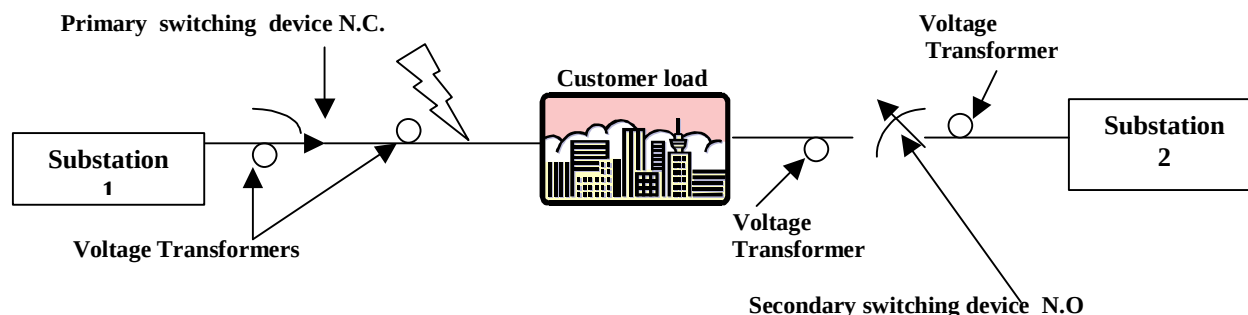

Figure 3
- b. A fault occurs between the primary switching point (see Figure 3) and the customer load. The recloser and breaker in substation one use zone sequence coordination to avoid unnecessary trips at the substation. After the recloser goes to lockout, the PCD control in this device will switch from the Primary settings program to Alternate 1 settings program. The PCD control in the recloser at the secondary switching point will detect loss of voltage (27-3P) at the load side, and if voltage is still present (59-3P) at the source side (from substation two), it will close after a predetermined set time. At this point, the PCD control in this device will switch from the Primary settings program to Alternate 1 settings program. Restoration to the original state will be made manually.